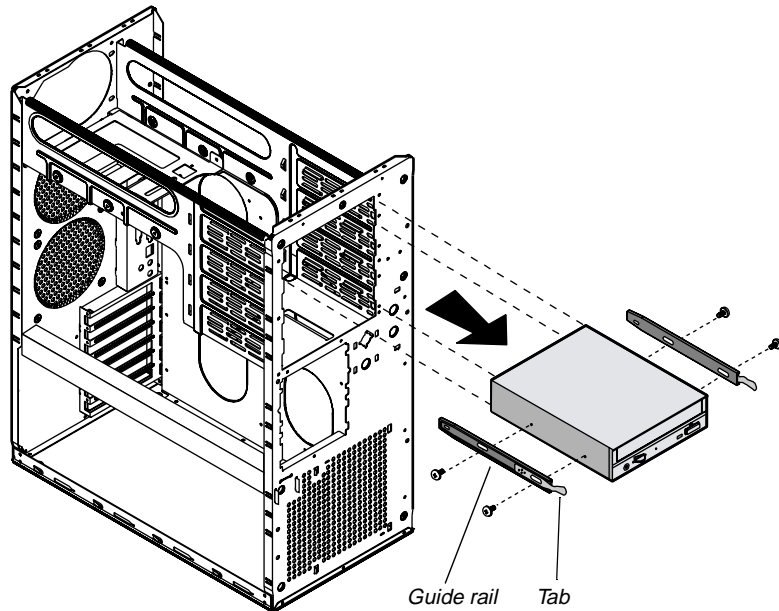

Figure 24: Removing a 5.25-inch Drive
6. Squeeze the tabs at the ends of the guide rails in toward the center of the drive and pull the drive out of the chassis (see Figure 24).